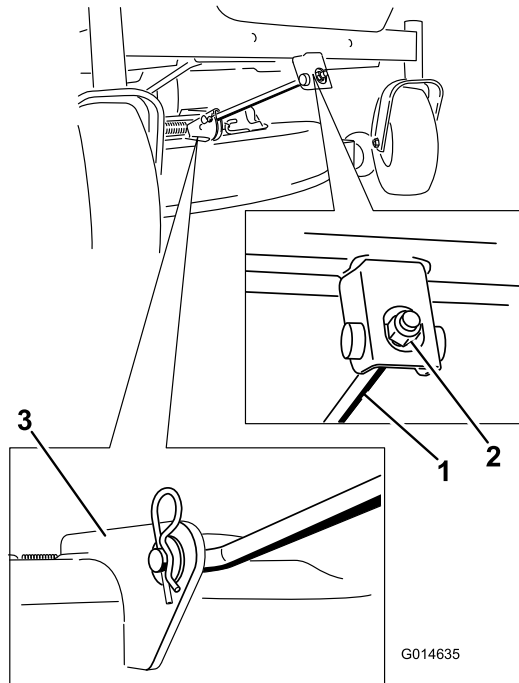

Figure 55
4. Remove the hairpin-cotter pin from the front support rod, and remove the rod from the deck bracket (Figure 55).
6. Attach the front support rod to the mower deck with the clevis pin and hairpin-cotter pin (Figure 55).